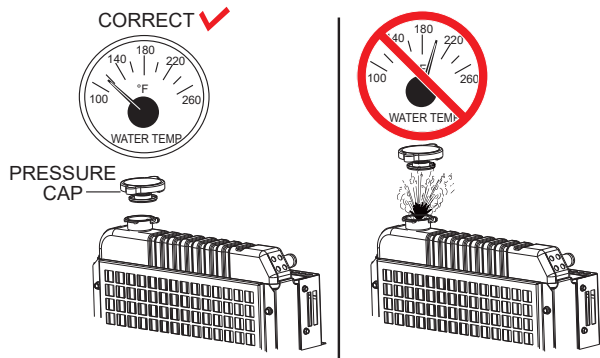

Figure 65. Radiator Pressure Cap Removal
1. Remove the radiator pressure cap (Figure 65) only if the coolant temperature is below 120°F (50°C).